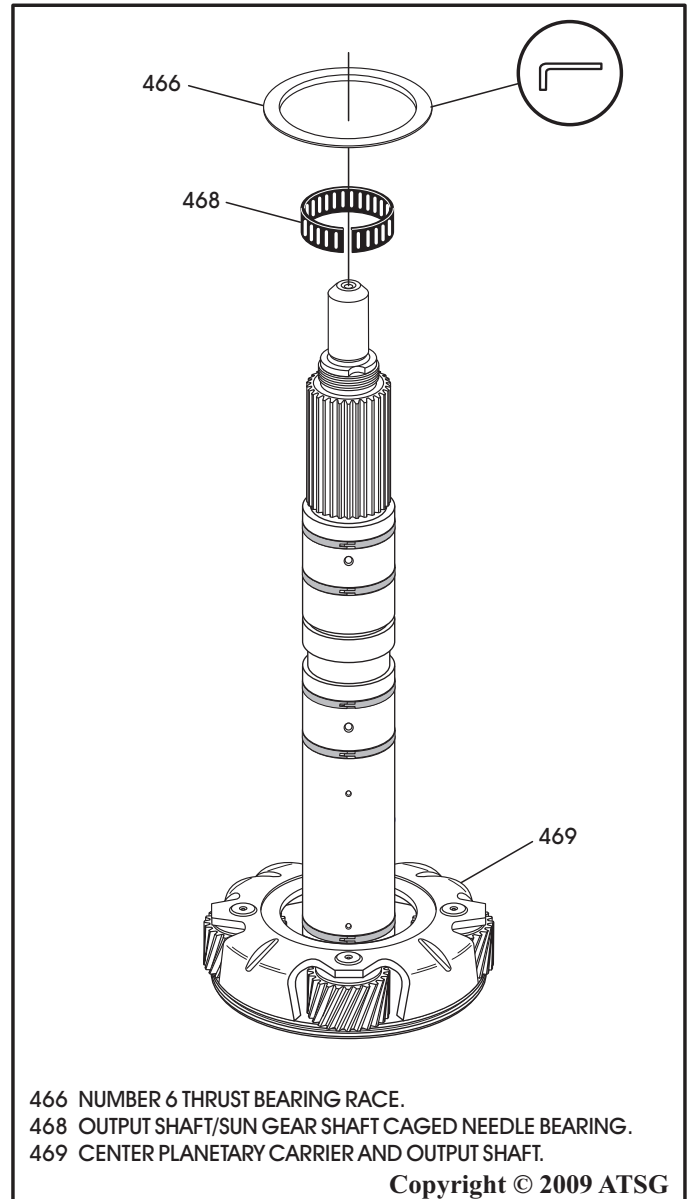

Figure 145
47. Install the number 6 thrust bearing race, as shown in Figure 145, and retain with a small amount of Trans-Jel®.
48. Install the caged needle bearing into the output shaft groove, as shown in Figure 145, by gently spreading just enough to get it over the output shaft.